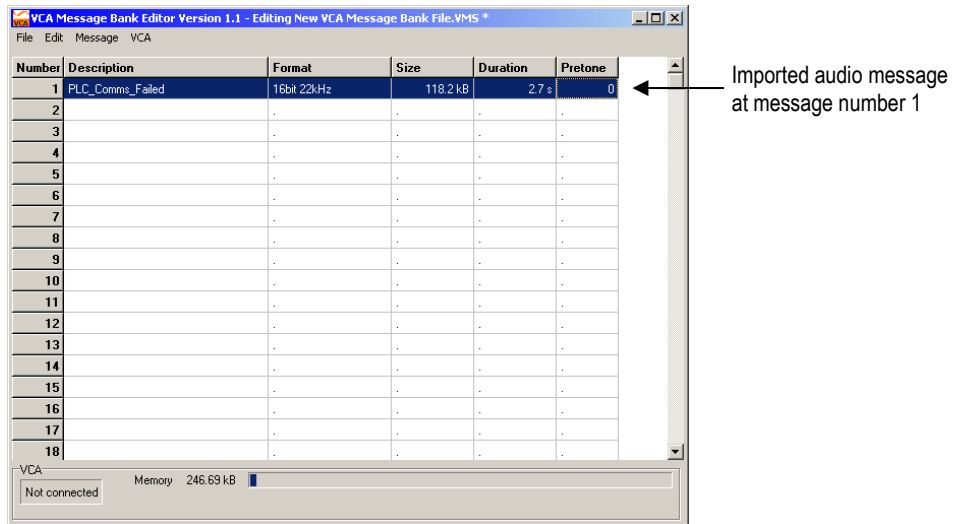

Figure 39 - Importing an audio file
4. Once imported, the voice message will appear in the message bank at the chosen message number as shown in Figure 39. There are three message attributes that can be edited: Description, Format and Pretone number. These will be explained in the next section. It may be easier to import all of the required messages first and then change the message settings.
- As with any program you are working with, **save frequently!** It is recommended that the Message Bank is saved as soon as it is created. Open the File menu and select Save As. Give the file a meaningful name and note where the file is saved. Message Bank files have the file extension “.vms”. The file name is displayed in the main window’s title bar, above the menus. If any changes have been made that have not been saved, the file name will have an “*” following it as shown in Figure 39.